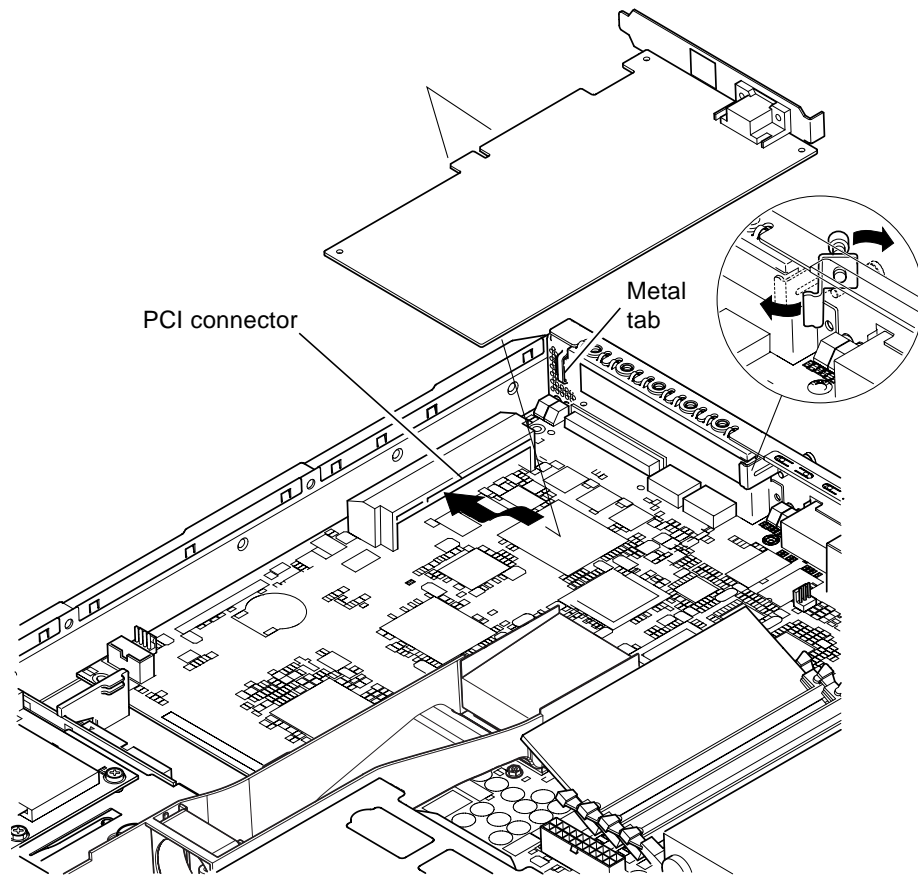

FIGURE 4-7 The Rotating Retention Bracket and the Position of a PCI Card
3. **Loosen the captive screw holding the PCI slot’s retention bracket in place (see FIGURE 4-7).**
Rotate the retention bracket through 90 degrees (see FIGURE 4-7). This releases the filler panel in the PCI slot, enabling you to remove the filler panel. Remove it.
5. **Insert the PCI card firmly into the PCI connector (see FIGURE 4-7) making sure that the PCI card’s bracket is correctly positioned against the rear of the chassis.**
The tapered end of the bracket must be inside the small metal tab designed for it on the chassis (see FIGURE 4-7).
7. Reposition and tighten the rotating retention bracket (see FIGURE 4-7) to secure the PCI card to the chassis.
2. **Loosen the captive screw that secures the rotating retention bracket (the screw and bracket are illustrated in FIGURE 4-7).**
Rotate the retention bracket through 90 degrees (see FIGURE 4-7).
6. **Replace the filler panel for the PCI slot (in the back panel of the chassis), and tighten the captive screw that secures the rotating retention bracket (see FIGURE 4-7).**